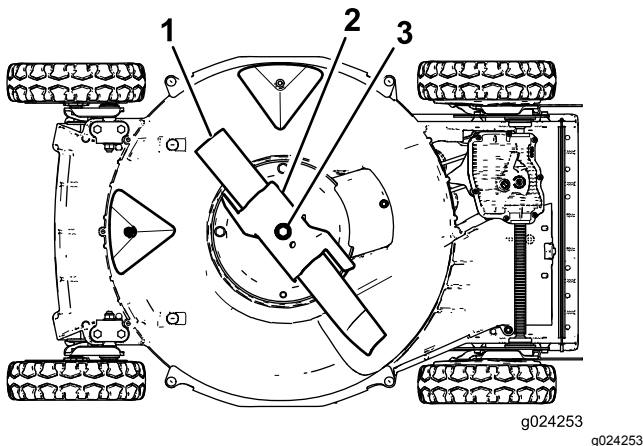

Figure 24
4. Tip the machine onto its **right** side (air cleaner up) as shown in Figure 24.